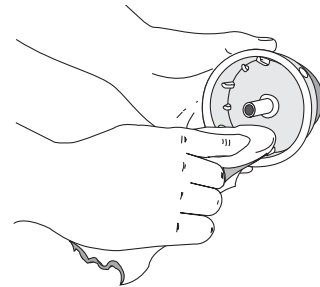

Fig. 33
4. Use a clean cloth to clean the the inner reel, spring, shaft and inner surface of the outer spool (Fig. 33).